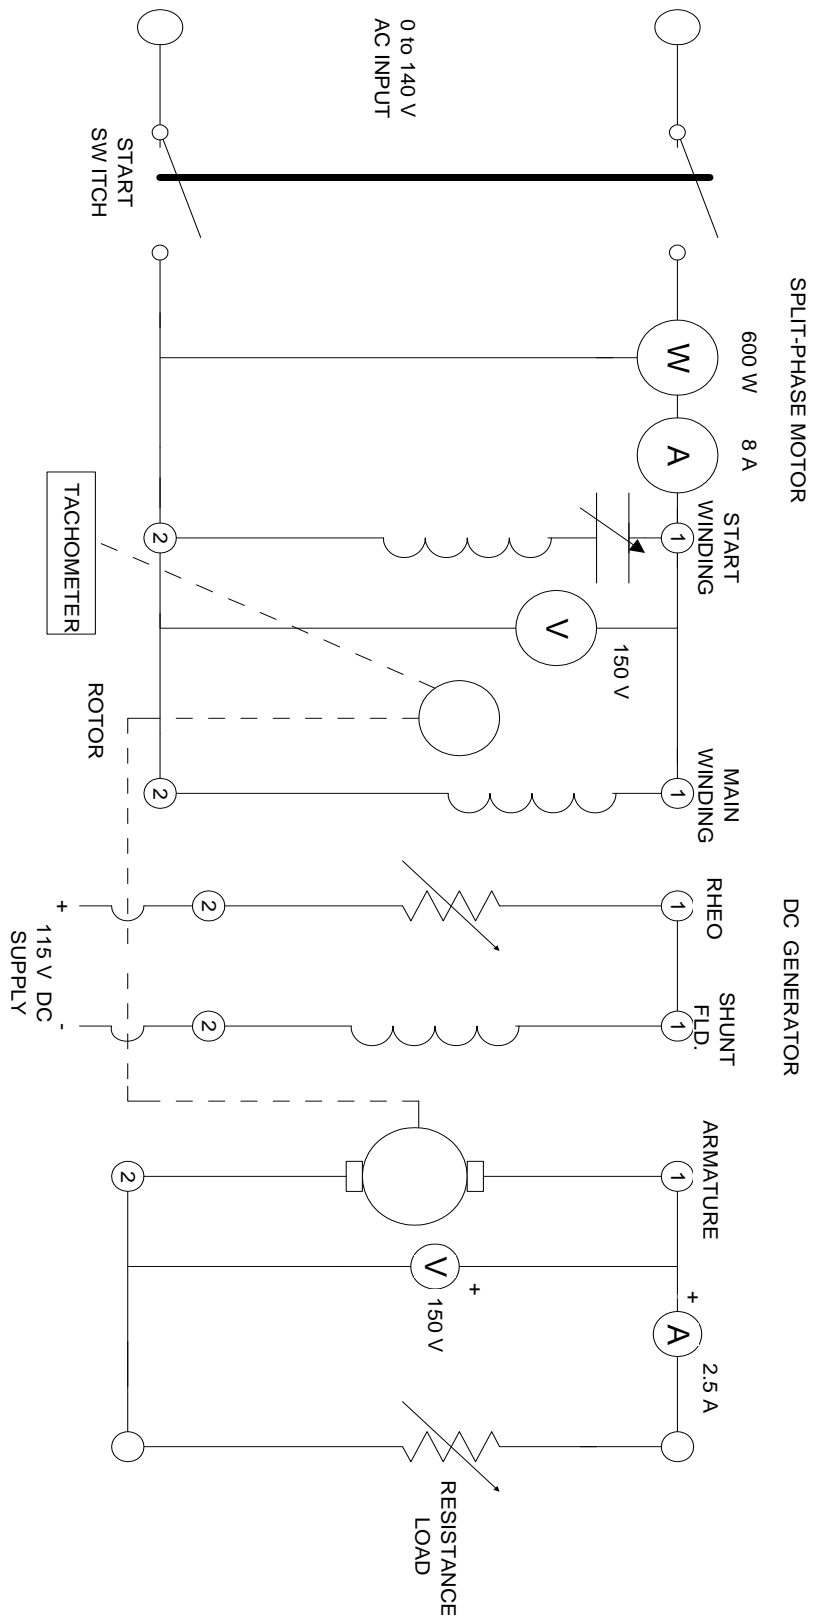

Figure 3. Split-phase motor coupled with DC generator
11. Couple the Split-Phase Motor to the DC Generator and make the connections as shown in figure 3. Adjust the Generator's rheostat to its maximum resistance, fully CW position. Adjust the variable AC supply to 60 volts.